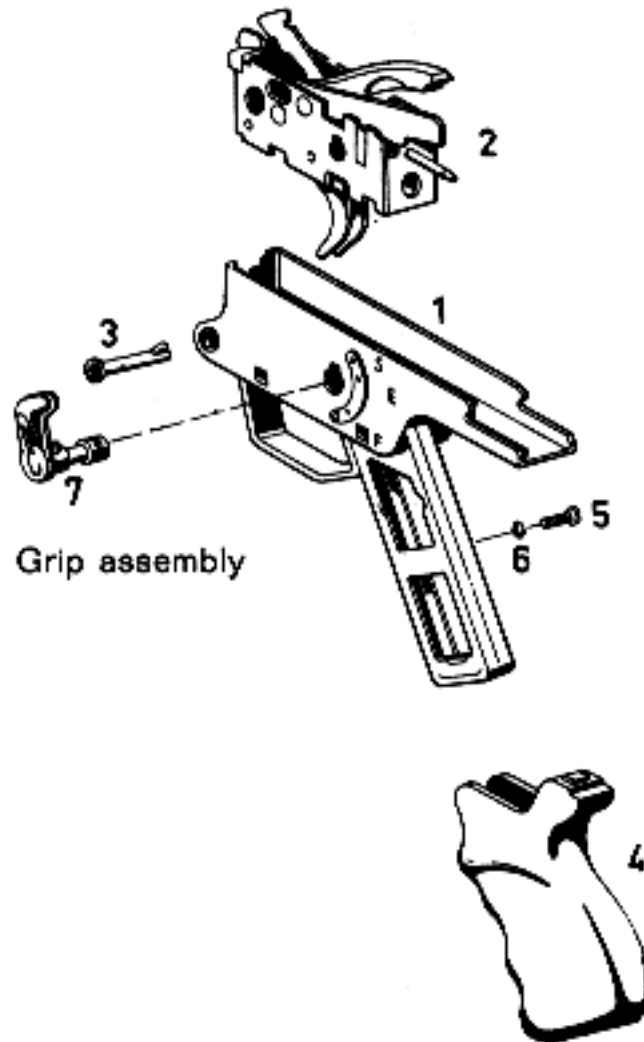

Fig. 18: Grip assembly
1.5.1.3. Grip assembly with trigger mechanism (Fig. 18)